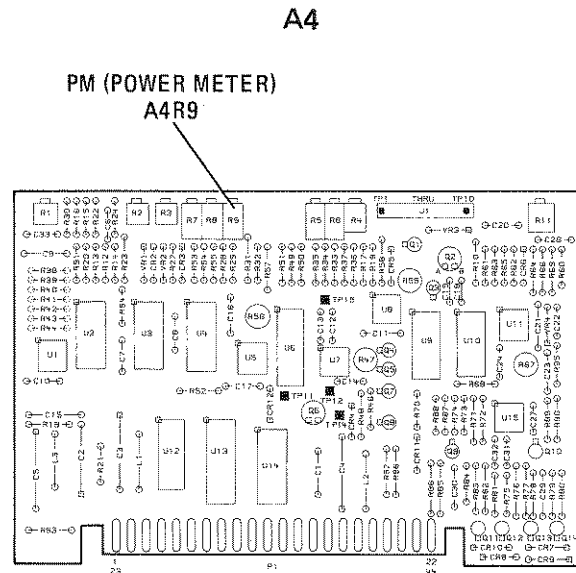

Figure 5-33. Power Meter Adjustment Location
3. Increase the 83525A power level until the 432A power meter reaches full scale deflection (approximately $+6$ dBm). Adjust A4R9 (PM) (Figure 5-33) until the 436A Power Meter indication is equal to the plug-in front panel readout minus the power splitter insertion loss noted in step 1 (approximately 6 dB).